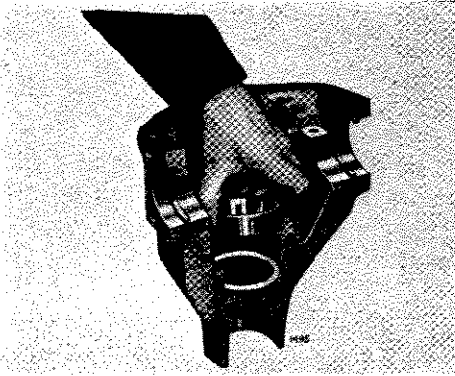

Fig. 81. Pinion positioning shims in casing
Place the required shims (59) on the pinion head bearing abutment face in the casing and install the outer race (Fig. 81).